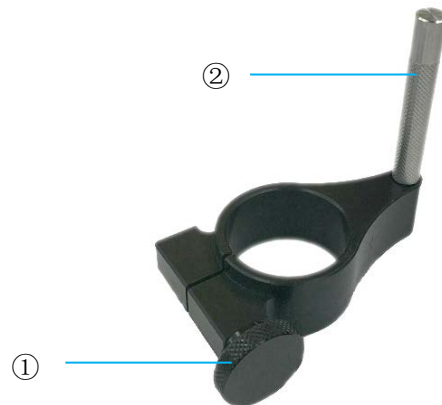

Figure 4-6
As shown in Figure 4-6, it is general fixing accessories, ① used to adjust the position of the injection unit. ② can be used with the RWD 68207 V-shaped connector to fix the injection unit to the operating arm of the stereotaxic apparatus, and ② is used to fix the injection unit to the dovetail base of the micromanipulator with the help of special fixing accessories for micromanipulator.